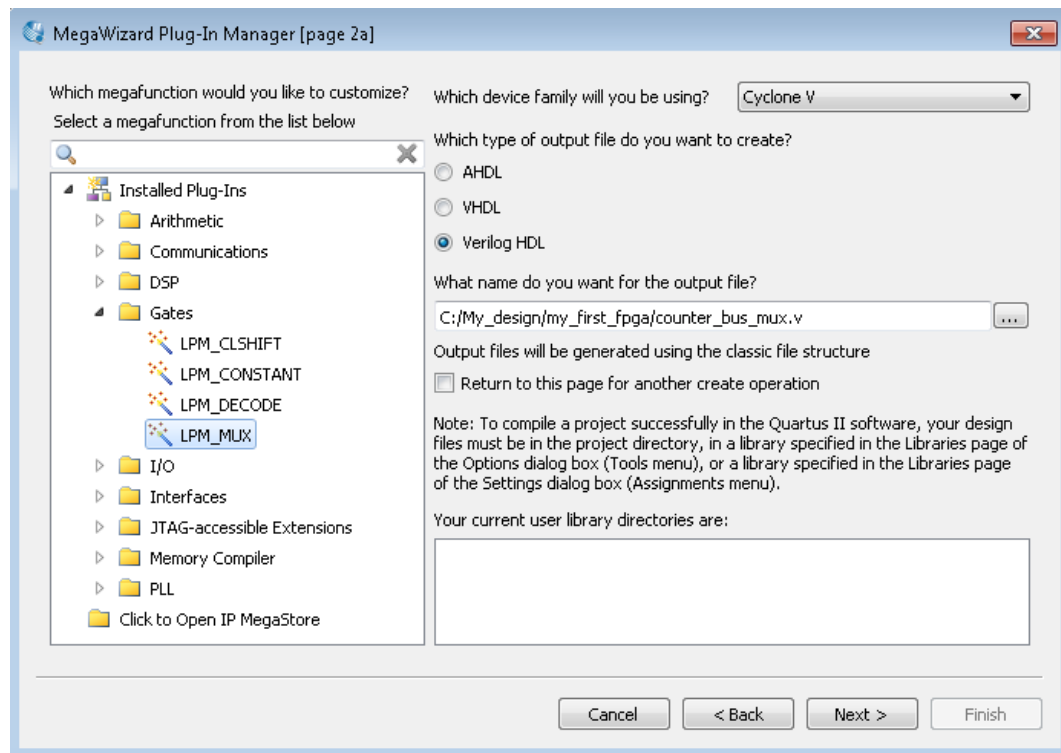

Figure 3-22 Selecting lpm_mux
5. Choose the device family that corresponds to the device on the development board you are using, choose Verilog HDL as the output file type, and name the output file counter_bus_mux.v (see Figure 3-22).